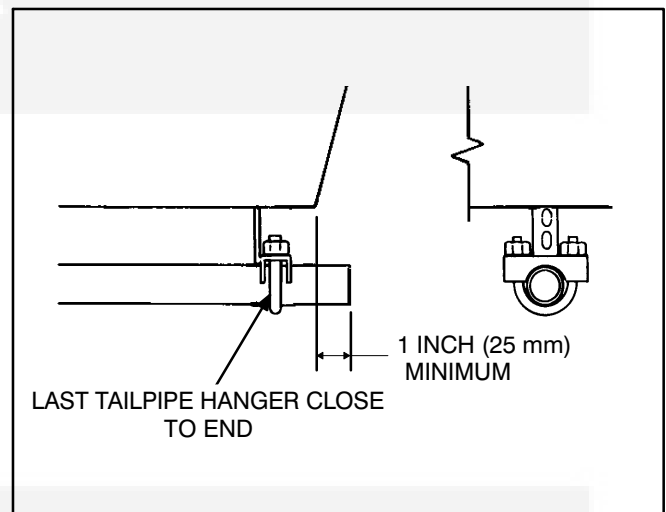

FIGURE 9. TERMINATING THE EXHAUST TAILPIPE
5. Do not terminate the tailpipe underneath the vehicle. Extend it a minimum of 1 inch (25 mm) beyond the perimeter of the vehicle (Figure 9). Support the end of the tailpipe such that it cannot be pushed inward and up under the skirt of the vehicle by backing up into a curb or other obstacle.
10. In “high-mount” applications (Commercial Models only), the exhaust tailpipe must be routed down and underneath the vehicle and terminate at least 1 inch (25.4 mm) beyond the perimeter of the vehicle (Figure 9). The tail pipe may be routed inside the hot exhaust duct (Page 11), but not through the interior of the vehicle. The tail pipe must be visible and accessible along its entire length for inspection and replacement.